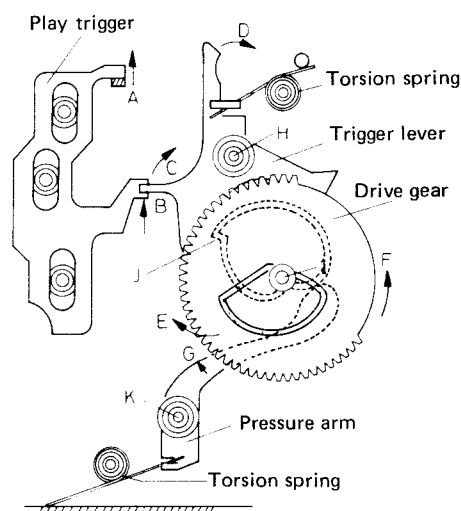

Fig. 7
1. PLAY operation (Figs 7 and 8)
2. REC operation (Figs 7 and 8)